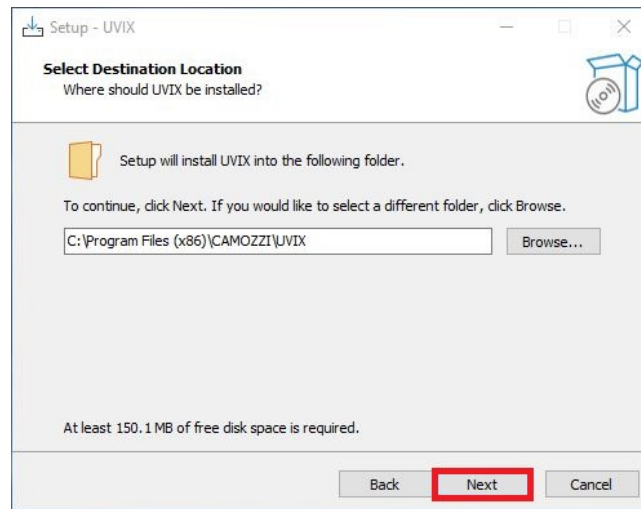

Figure 4.13: Select Destination Folder
3. If you want to change the destination folder, then click "Next" after that, as shown in figure 4.13.